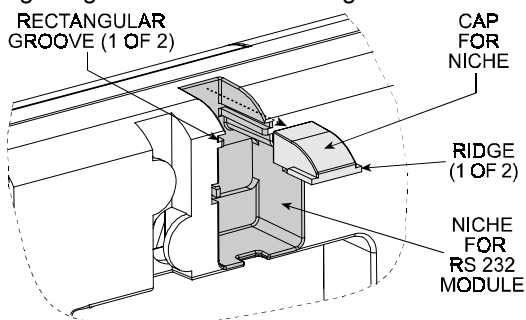

Figure 28. Removing the Cap from the RS232 Niche
- B.** Remove the factory installed plastic cap by sliding it out along the grooves as shown in Figure 28.